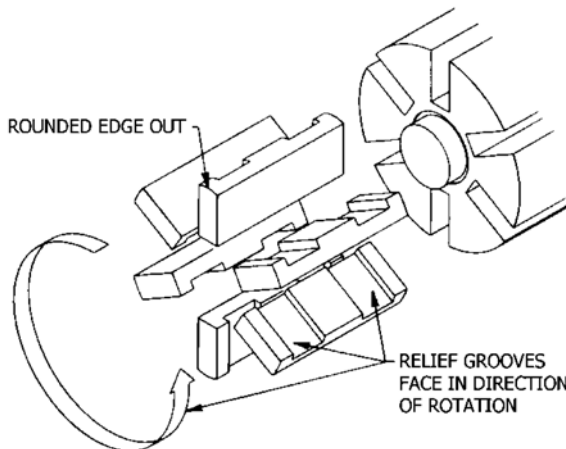

Figure 4 – Vane Replacement
4. Install a new vane, ensuring that the rounded edge is UP, and the relief grooves are facing towards the direction of rotation. See Figure 4.
4. Install the head (20) on the outboard side of the cylinder. Install and snug up four head capscrews (21) 90° apart.
5. Hand pack the ball bearing (24) with grease. Refer to "Lubrication" in the Pump Maintenance Section for the recommended grease.
8. Remove the vanes (14) and push rods (77) from the rotor and shaft assembly. Inspect for wear and damage, and replace as follows:
- a. Partially install the non-driven end of the rotor and shaft (13) into the open side of the pump cylinder.
- b. Leave part of the rotor outside of the cylinder so that the bottom vanes can be installed and held in place as the push rods are installed in the push rod holes of the rotor. Insert the new vanes into the rotor slots with the rounded edges outward, and the vane relief grooves facing TOWARDS the direction of rotation. Refer to Figure 4 in "Vane Replacement."